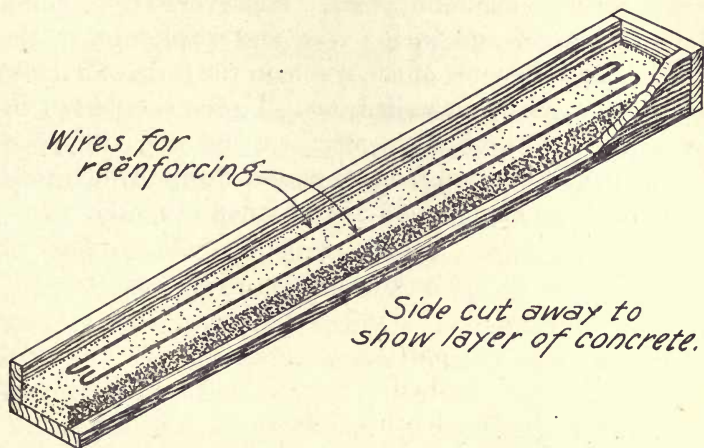

FIG. 229.—REËNFORCING WIRES IN FENCE POST.
**Casting.**—Use 1 part cement, 2 parts sand, and 4 parts gravel or crushed stone. Spread the concrete in each mold to the depth of 1" and lay on this the two reënforcing wires about 1" from each side. Bend the ends of the rods over in the form of a hook so that they will come to within 2" of each end. (See Fig. 229.) Then pour on another layer of concrete to within 1" of the top, place the other two reënforcing rods in similar manner, and fill the molds full of concrete over this reënforcement. Spade the sides well and trowel the top to make it as smooth as possible.